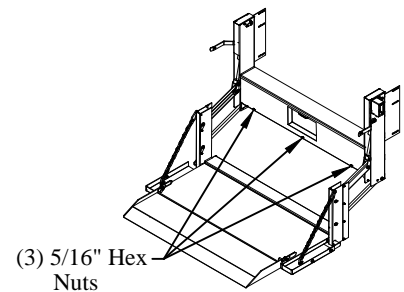

Figure 15: Box cover locations.
1. **Remove** the box cover by removing the 5/16" hex head nuts (Figure 15).